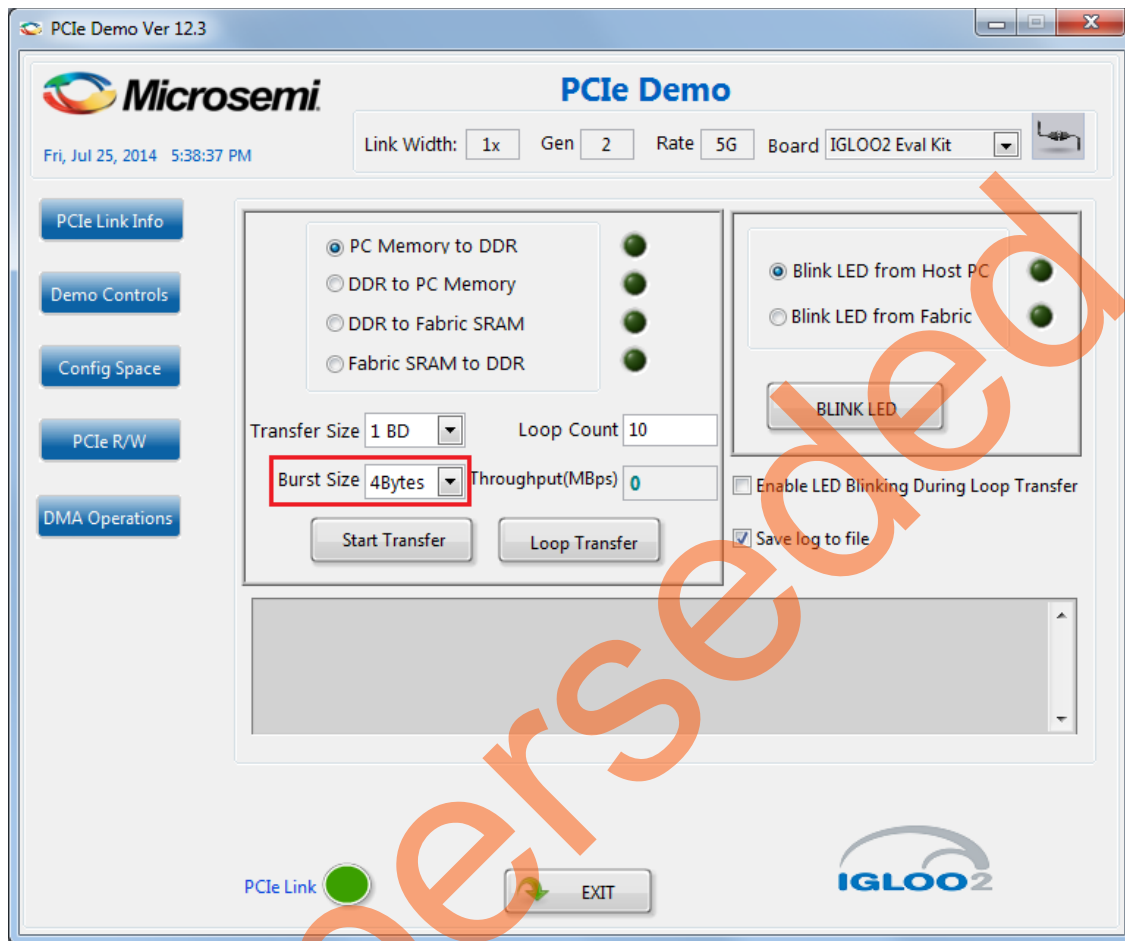

Figure 25 • Burst Size Selection
18. The Burst Size (TLP size) is fixed to 4 bytes as the HPDMA does not support burst, and the actual size of the PCIe packet is the width of a single AHB transfer, which is 4 bytes (32-bit AHB) as shown in Figure 25.